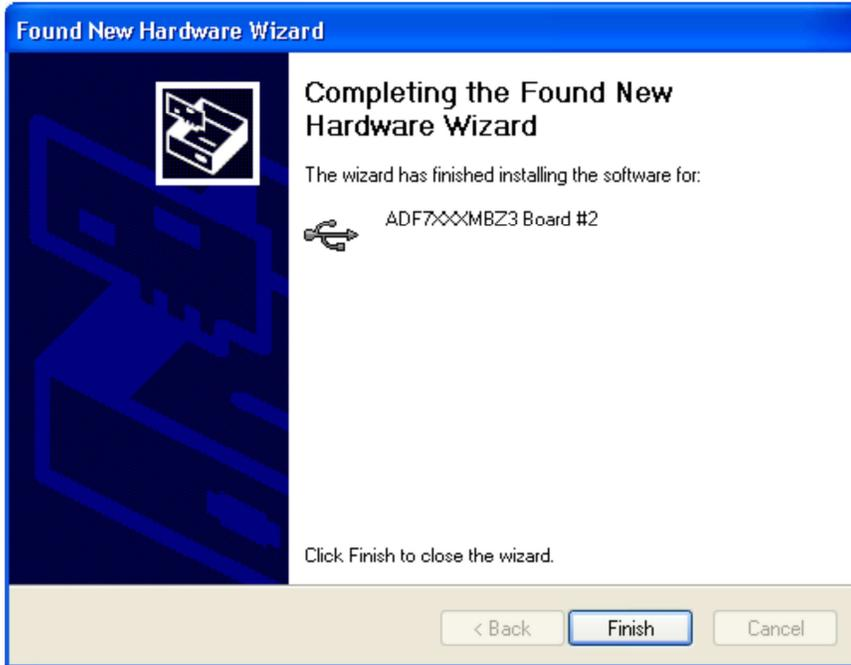

Figure 13
15. Click **Finish** (Figure 13):